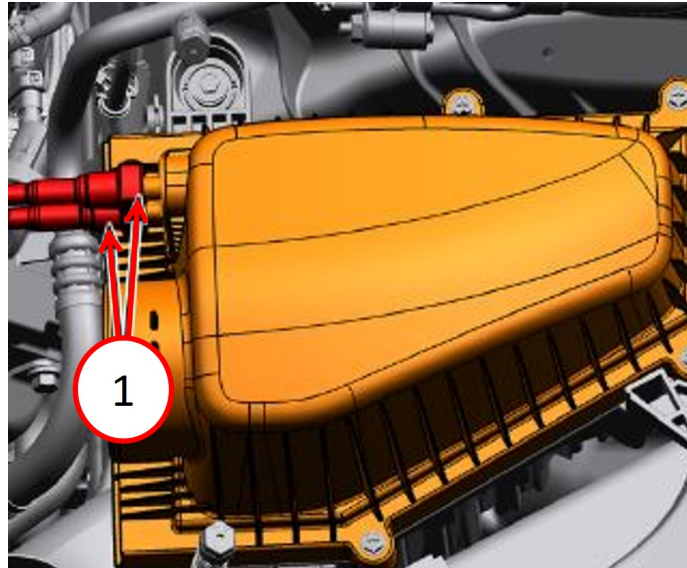
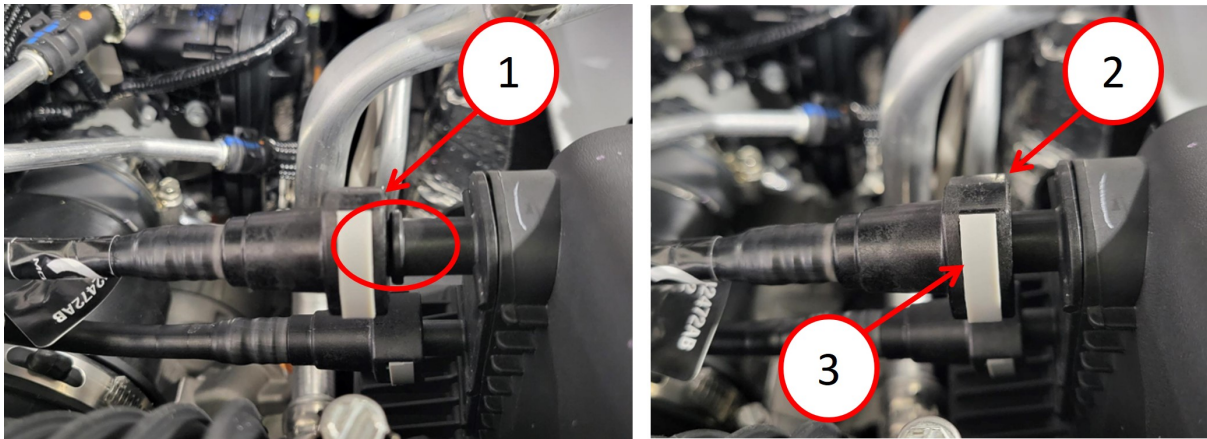

Fig. 1
Fig. 2
2. Inspect the two EVAP line quick connects at the air cleaner cover (Fig. 1) by pressing the white connector lock (Fig. 2) and with a push-pull-push test, ensure both quick connect locks are locked (Fig. 2) .